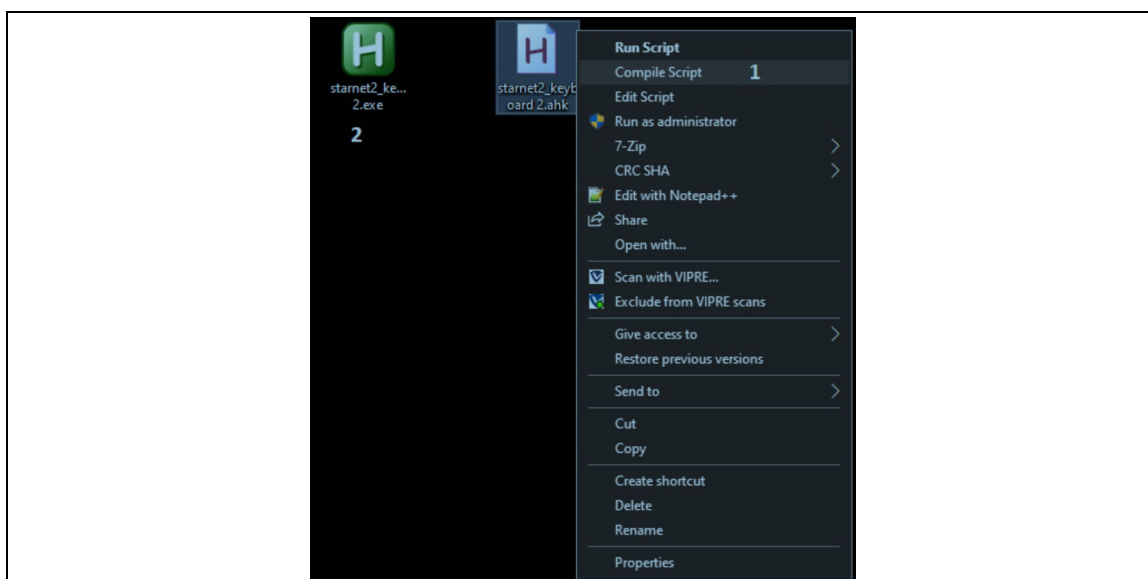

Figure 62: Compile Script
2. Right-click and “Compile Script” (1) as seen in Figure 62:. It should output an exe File (2).